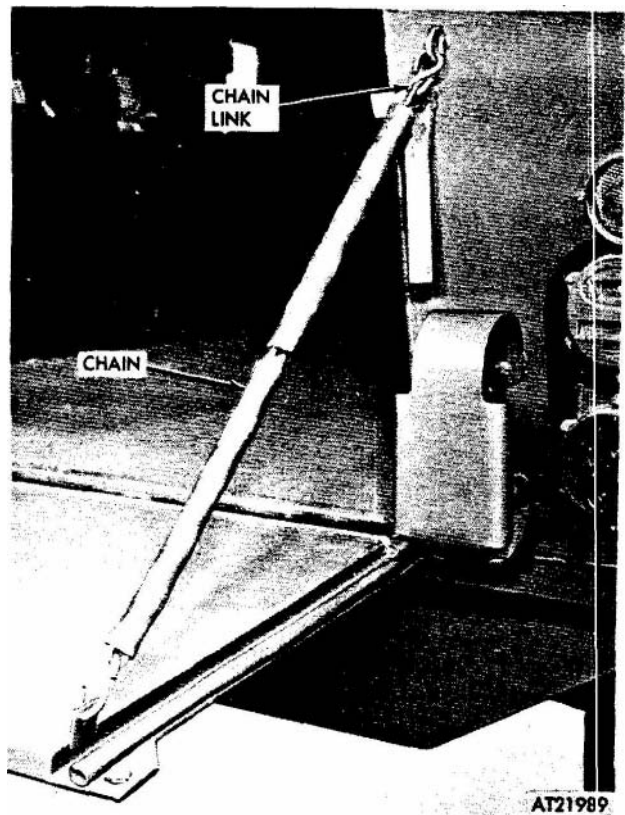

Figure 2-337. Tailgate chain assembly, removal and installation.
a. Removal. Remove defective tailgate chain assembly by opening chain link securing chain to carrier eyebolt (fig 2-337).
b. Installation. Install chain assembly on carrier eyebolt and secure to carrier by crimping chain link (fig 2-337).